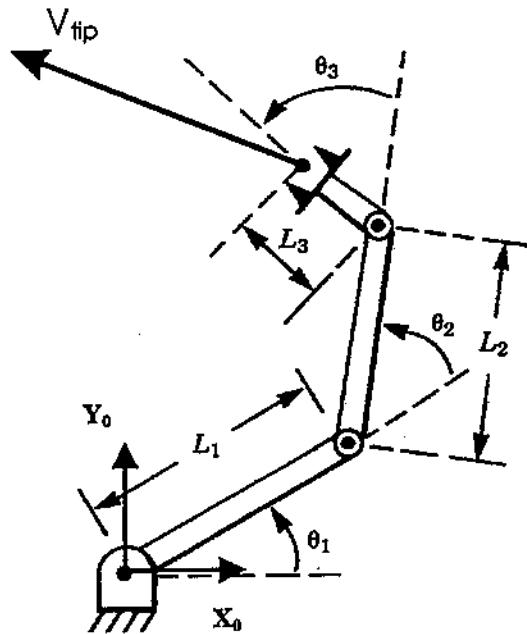

Figure 8. A 3DOF Planar Robot.
8. Calculate the linear velocity of the tool tip as the function of the three joint rates for the manipulator shown in Figure 8. Give the answer in the tip-frame (20 points).